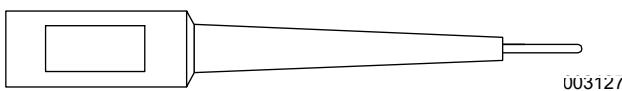

Figure 2-18. Narrow Test Probe
- Meter test leads capable of measuring voltage inside a connector without damaging the socket. A set of black and red test leads (P/N 0J09460SRV) for this application are available. See **Figure 2-18**.